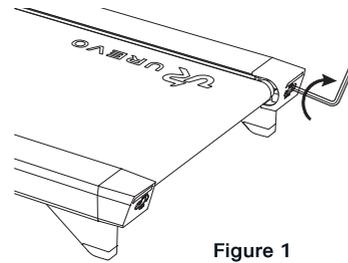

Figure 1
- If the walk belt has shifted to left, use the hex tool to turn the left idler roller screw clockwise $\frac{1}{4}$ of a turn(refer to figure 1).